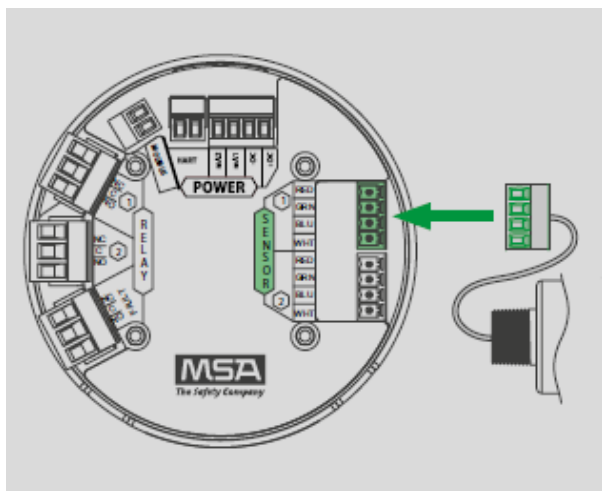

Figure 9 Connecting Sensor to the Stack
4. Connect the sensor to the "Sensor 1" position on the electronics assembly (Figure 9).